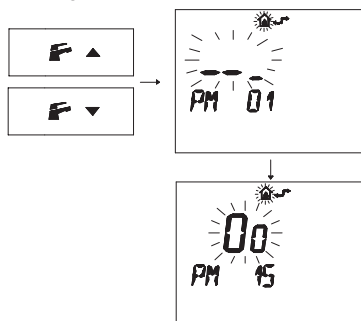

Fig. 7.13
- Press buttons **F** and **▲** or **F** and **▼** to display the "PM15" program that enables the external probe (Fig. 7.13).